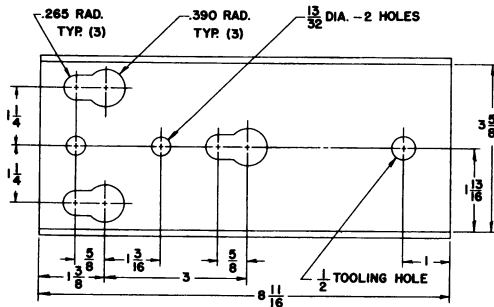

FIG. 2 BASE HOLE PATTERN (SA5000AC & SA7000AC)
4. Your winch is equipped with keyhole slots in the base for use with quick mounting shoulder studs, if desirable. (See FIG. 2&3) If you wish to use quick mount studs, they should be mounted securely into the winch stand. After positioning the winch on the studs, a 3/8" bolt should be placed in one of the other holes available to keep the winch securely in position.